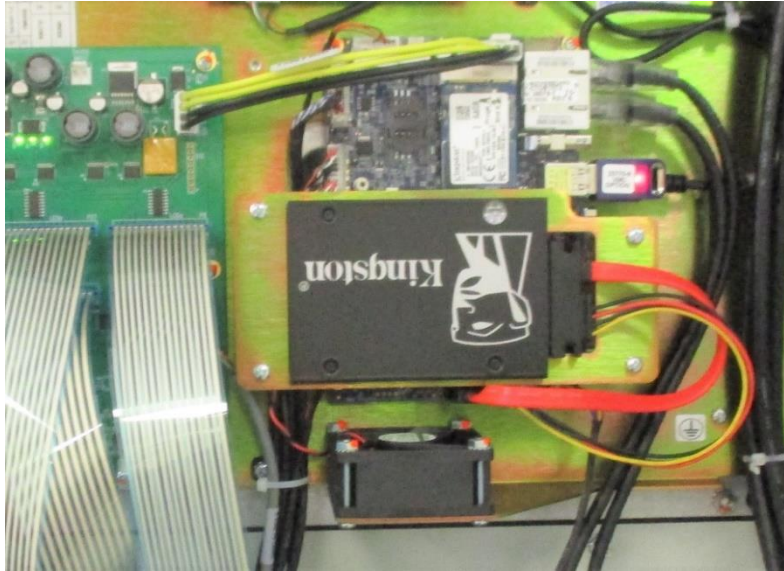

Figure 5.1.4b
4. The memory card needs to be installed on the bracket with the four small screws provided from the rear of the bracket into the memory card. The bracket is then installed on the four standoffs with screws provided. Figure 5.1.4b shows the bracket installed and where to locate the memory card.